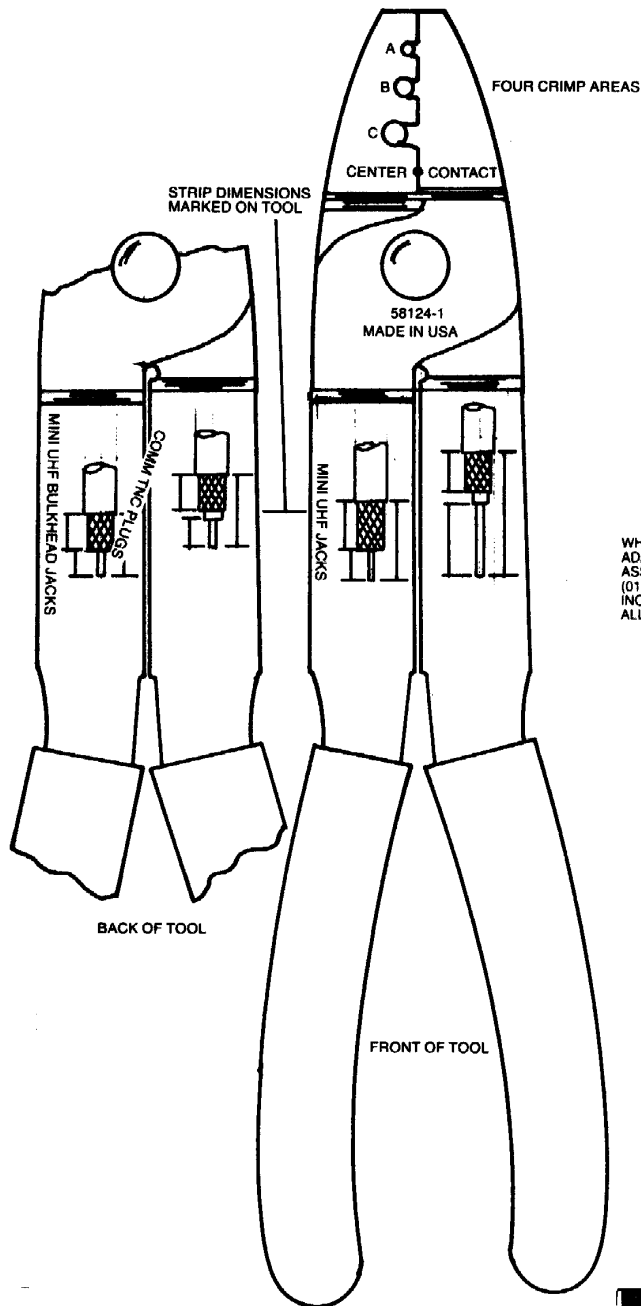
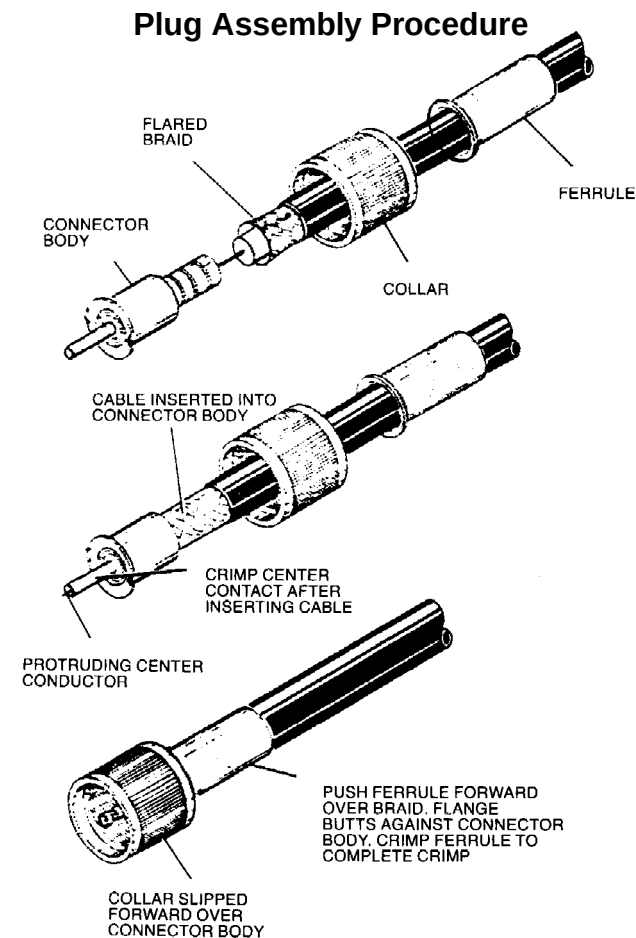

Figure 10.
Figure 12.
Use Motorola hand tool part #66-80388A26. Refer to Figure 10. A deluxe ratchet type tool is available; order part #66-80334B40.
1. Slip ferrule and collar onto the cable. Refer to Figure 12.
3. Insert the stripped cable into the plug body until the conductor is exposed (front end) and dielectric bottoms inside body. Refer to Figure 12.
4. Crimp center contact using proper crimp section of tool. Refer to Figure 10 marked "CENTER CONTACT".
5. Push collar forward onto plug assembly. Fit cable braid over support sleeve of connector. Refer to Figure 12.
6. Push ferrule over braid until flange butts against connector body. Refer to Figure 12. Using correct crimp area of tool, crimp ferrule close to plug body. See Figure 10 crimp location "C". Crimp ferrule a second time close to cable end, using "C" crimp area of tool.